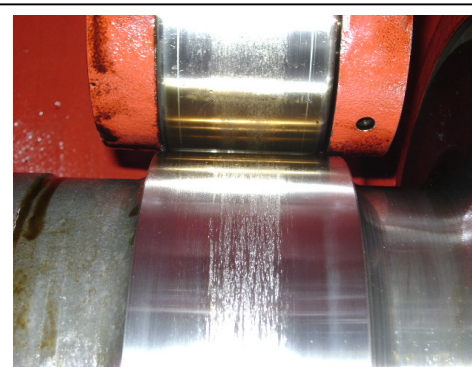

Figure 1
1. **Visual inspection** of fuel cam and roller for unusual marks: This does not refer to the circumferential marks described in Service Info 03-05 "Running Patterns of Rollers and Cams". Please check the roller for grinding marks and/or material transfer from the roller to the fuel cam (see Figure 1).